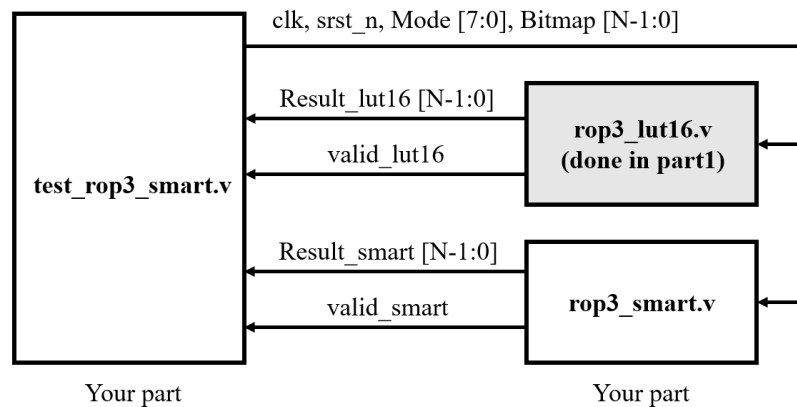

Figure 4: Part 2 Architecture
- (1) This testbench should send identical inputs to both modules (rop3_lut16 & rop3_smart), and compare their computation results. A reference testing architecture is shown in Figure 4.
- (2) This testbench should generate all the modes listed in Table 1 and all possible combinations of P, S and D for each mode. Try to use for-loop and traverse with order